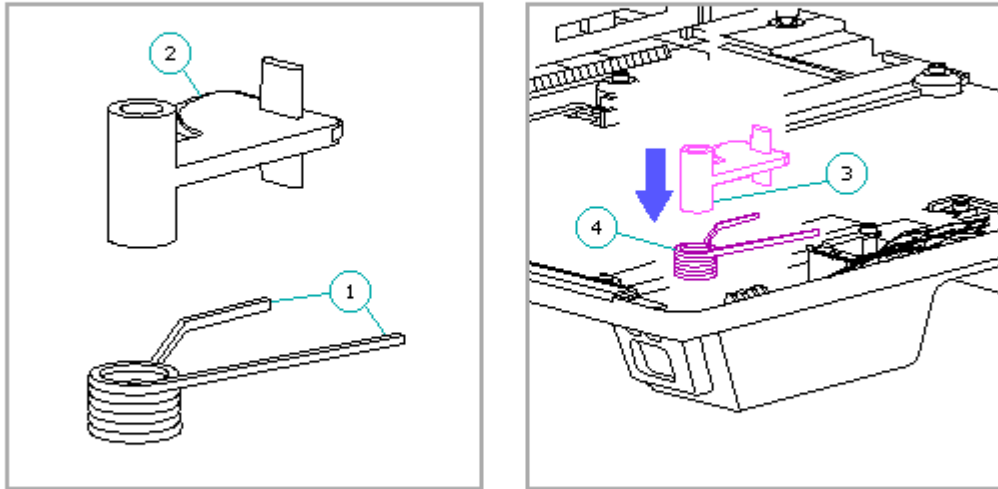

Figure 9-60. Positioning the Spring onto the Horizontal Guide
1. Position the spring so that the legs of the spring are on the top [1] (Figure 9-60).
2. With the curved surface of the horizontal guide [2] facing left, place the spring post of the horizontal guide [3] in the coil of the spring [4]. Ensure that both legs of the spring are to the right of the horizontal guide (Figure 9-60).